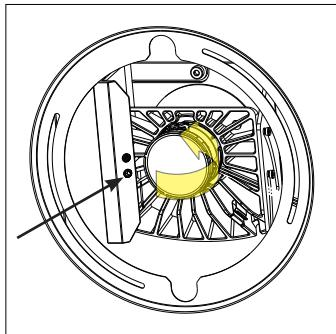

fig. 19 (rotate)
- Using the same 4 mm hex tool, use the rotate control point to rotate the optic (see fig 19).